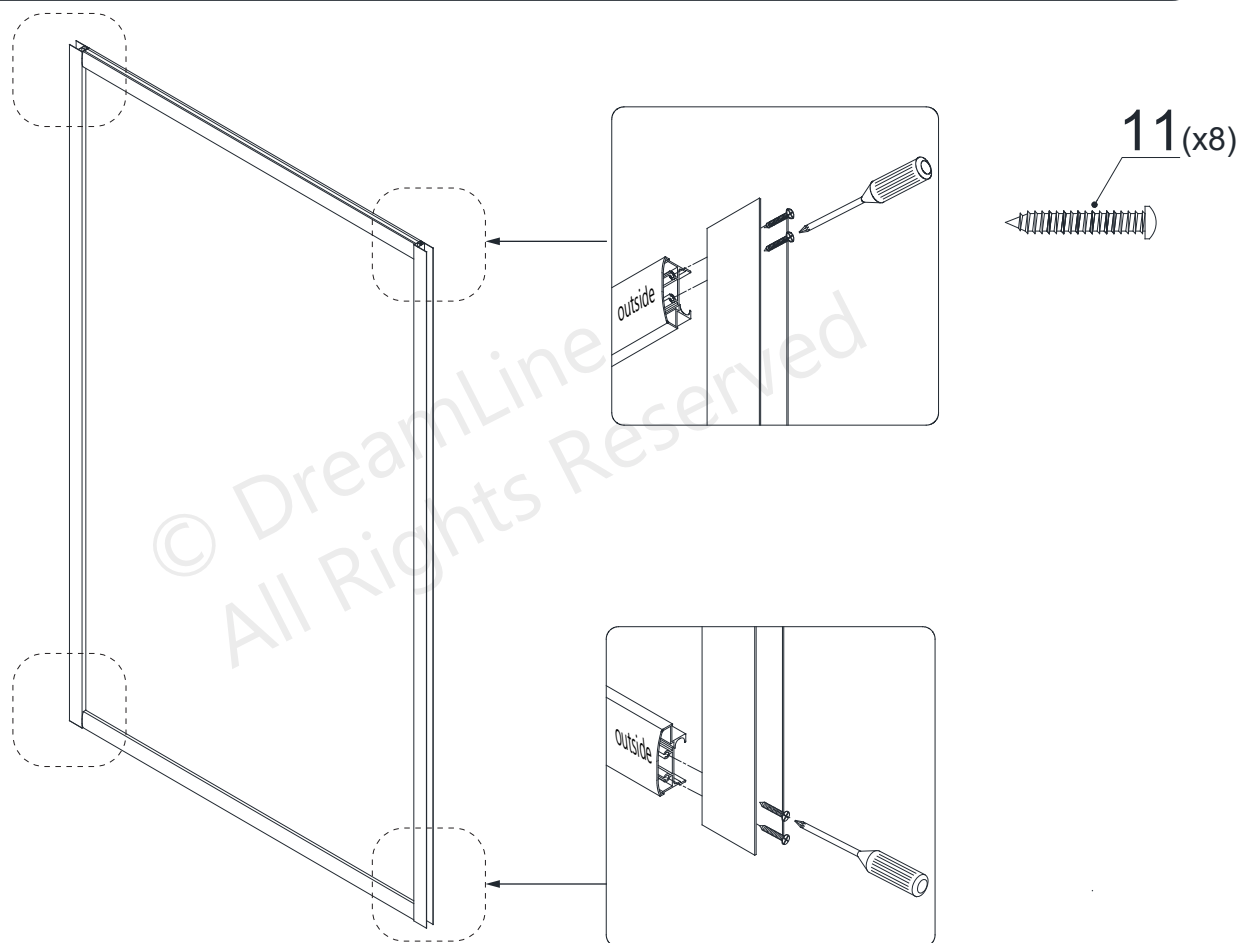

Fig 4
4. Secure the **Bottom Guide Rail (#03)** and **Top Guide Rail (#03)** to the **Glass Profiles (#01)** with the **ST4.2×25 Pan Head Screws (#11)**. **(Fig 4)**